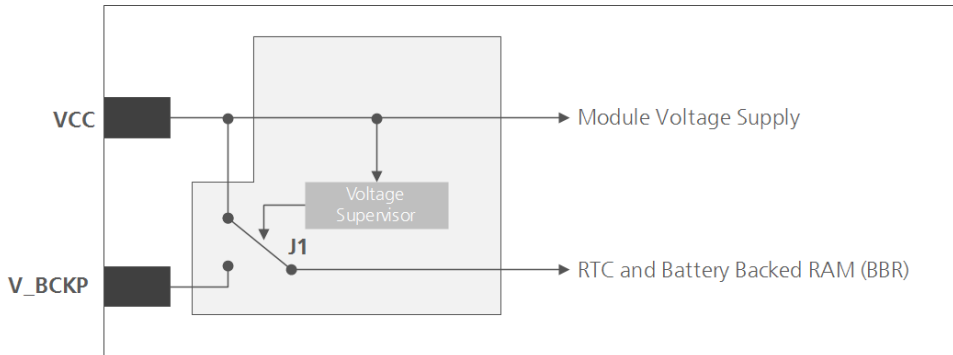

Figure 1: Backup battery and voltage (for exact pin orientation, see the [LEA-M8S Data sheet \[1\]](#) and the [NEO/LEA-M8T Data sheet \[2\]](#))
-  As long as the LEA-M8S and LEA-M8T modules are supplied via the **VCC**, the backup battery is disconnected from the RTC and the BBR to avoid unnecessary battery drain (see Figure 1). In this case, **VCC** supplies power to the RTC and BBR.